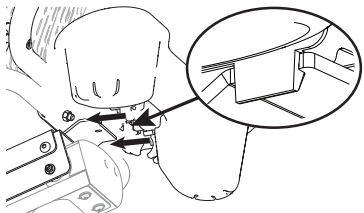

Figure 9
- 3. Slide the bottle holder forward so that its tabs fit around the bracket (Figure 9) and the screw hole in the center of the bottle holder and the bracket line up .